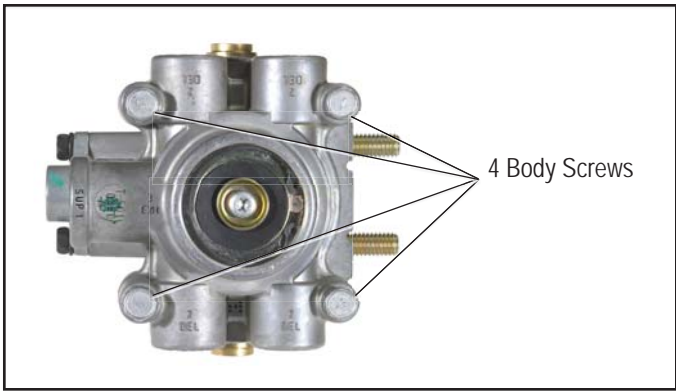

Figure 4 - *BOTTOM VIEW OF SR-7™ VALVE*
- Using a 7/16" wrench remove the four screws that secure the upper and lower bodies of the SR-7™ valve. Refer to Figure 4. Do not disconnect additional hoses or fittings. The separation between the upper and lower body should be approximately three inches to allow adequate room to install this kit.